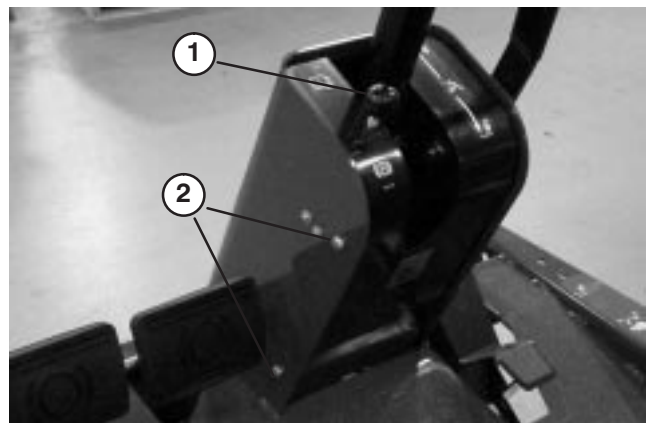

Figure 45
1. Remove knob from parking brake and screws from steering column cover (Fig. 45).